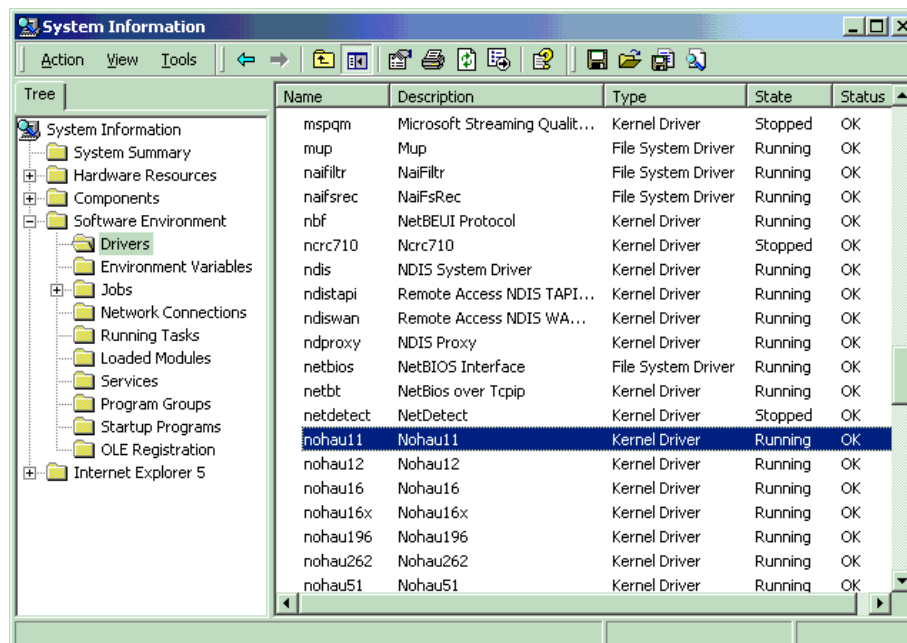

Figure 75. List of Active Drivers
4. Click **Drivers** to display a list of active drivers. Refer to the **Name** column and scroll down to Nohau11 (Figure 75).